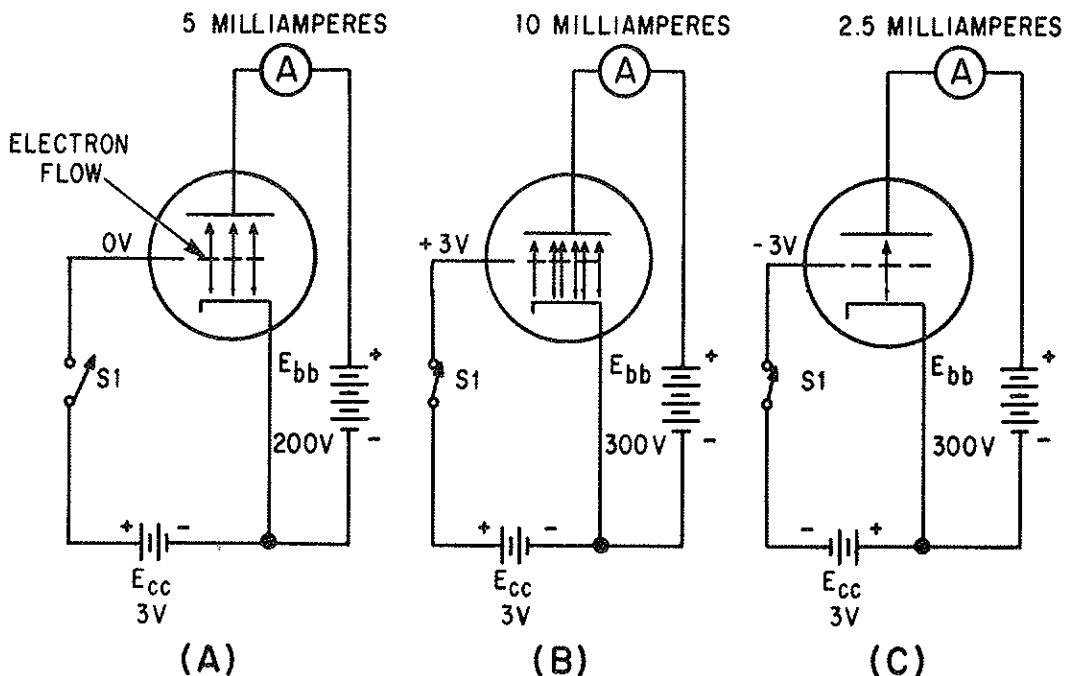

Figure 1-15.—De Forest's experiment.
In his next attempt, De Forest decided to change the element between the cathode and plate. Instead of a solid metal plate, he used a wire mesh. In this way electrons could flow from the cathode, **THROUGH THE WIRE MESH**, to the plate. This tube circuit is shown in figure 1-15. In view (A) you see De Forest's circuit with 0 volts applied to the third element, (today called a control grid or occasionally just the grid). Under these conditions, assume that the ammeter reads 5 milliamperes. With no voltage applied to the grid, the grid has little effect on the electron stream. For all practical purposes, the control grid is not there. Most electrons flow through the open mesh. The tube functions as a diode.
De Forest had certainly hit on something. Now the problem was to find out what happens when a negative potential was applied to the grid. This is shown in view (C) of figure 1-15. When De Forest applied -3 volts to the grid, he found that plate current was decreased to half of what it was when the grid had no voltage applied to it. The reason for this is found in the principle of "likes repel." The negatively charged grid simply repelled some of the electrons back toward the cathode. In this manner, the attractive effect of the plate was decreased, and less current flowed to the plate.
The circuit is identical to the one in figure 1-15 except that now a resistor (called a plate-load resistor,  $R_L$ ) has been added to the plate circuit, and a voltmeter has been added to measure the voltage drop across  $R_L$ .
Let's take another look at the circuit in figure 1-15(B). We found that the positive charge on the grid caused more plate current to flow. However, when the grid becomes positive, it begins to act as if it were a small plate. It draws a few electrons from the space charge. These electrons flow from the cathode across the gap to the positive grid, and back through the external grid circuit to the cathode. This flow is known as grid current. In some tube applications, grid current is desired. In others it is relatively harmless, while in some, grid current causes problems and must be eliminated.